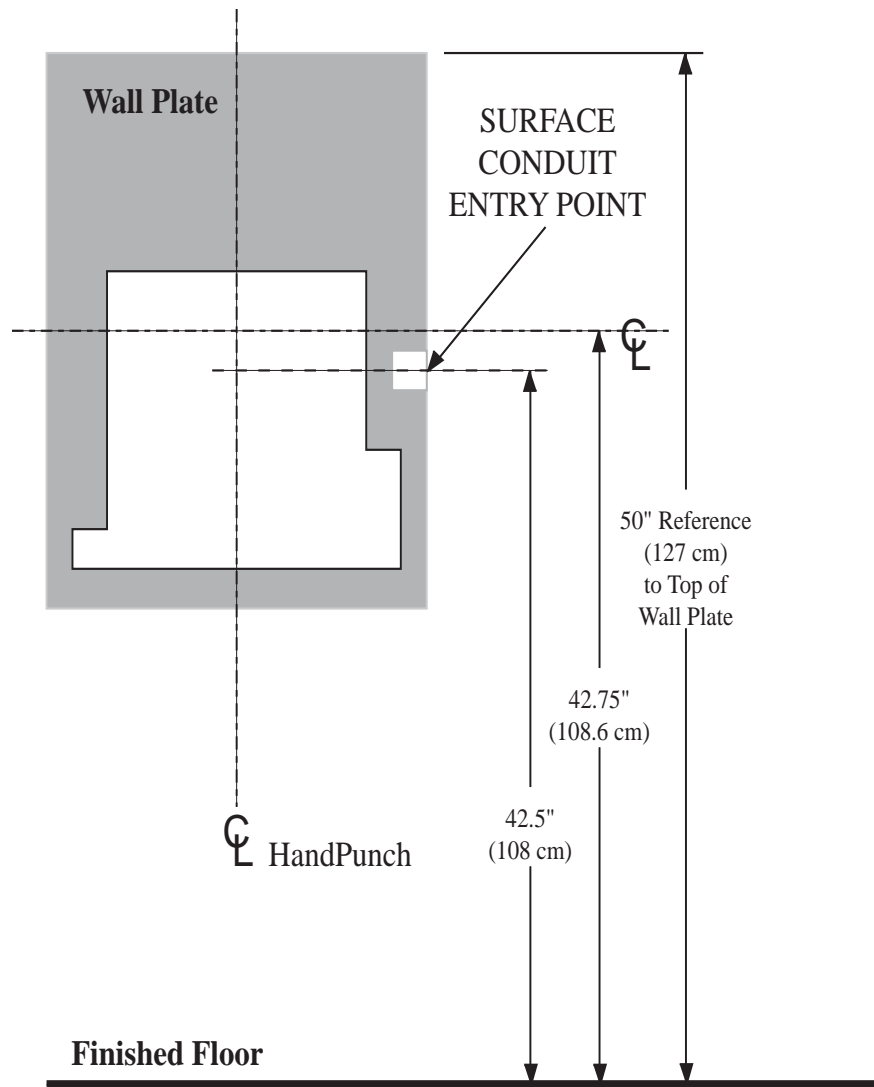

Figure 3-2: HandPunch Wire Routing Layout
Site Preparation Before you begin installation, check the site blueprints, riser diagrams, and specifications for important information about HandPunch location and for other systems that connect to the HandPunch. Look for any existing wall preparations and wiring that other contractors may have installed for the HandPunch. A wire routing layout diagram (see Figure 3-2 on page 15) is provided to assist in planning wire routing.
To make the Ethernet connection, a data jack must be installed on or in the wall behind the HandPunch terminal. Position the RJ-45 jack location using the template provided in this manual (see Figure 3-2 on page 15).
1. Refer to Figure 3-2 on page 15 for a template diagram to assist in routing wiring.